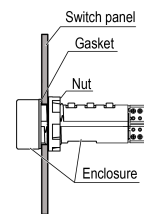

Fig. 1 Mounting
2. Carefully position the supplied gasket (see Fig. 1).